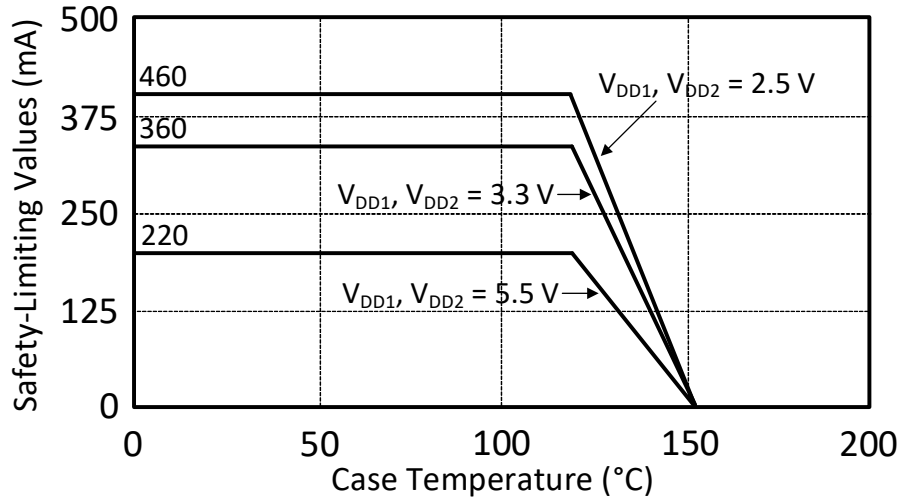
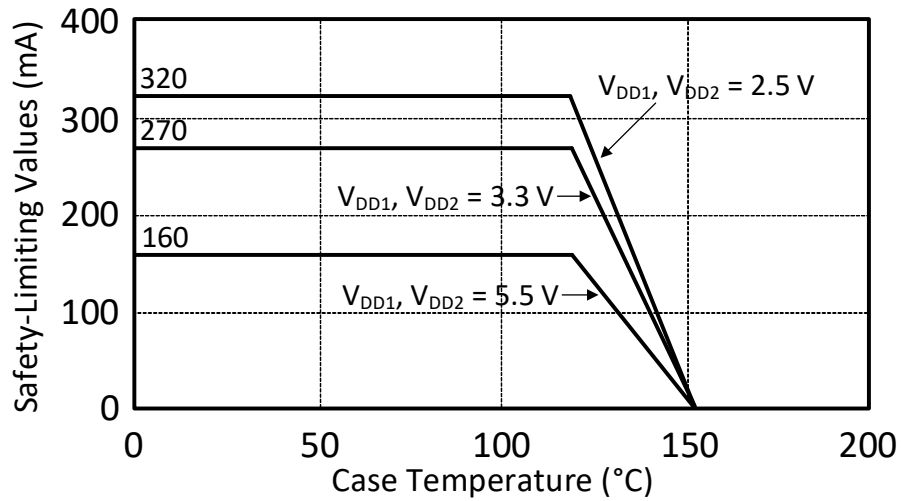

Figure 14. (WB SOIC-16) Thermal Derating Curve for Safety Limiting Current
Figure 15. (SOIC-8) Thermal Derating Curve for Safety Limiting Current
1. Maximum value allowed in the event of a failure; also see the thermal derating curves in Figure 14 and Figure 15 on page 20.